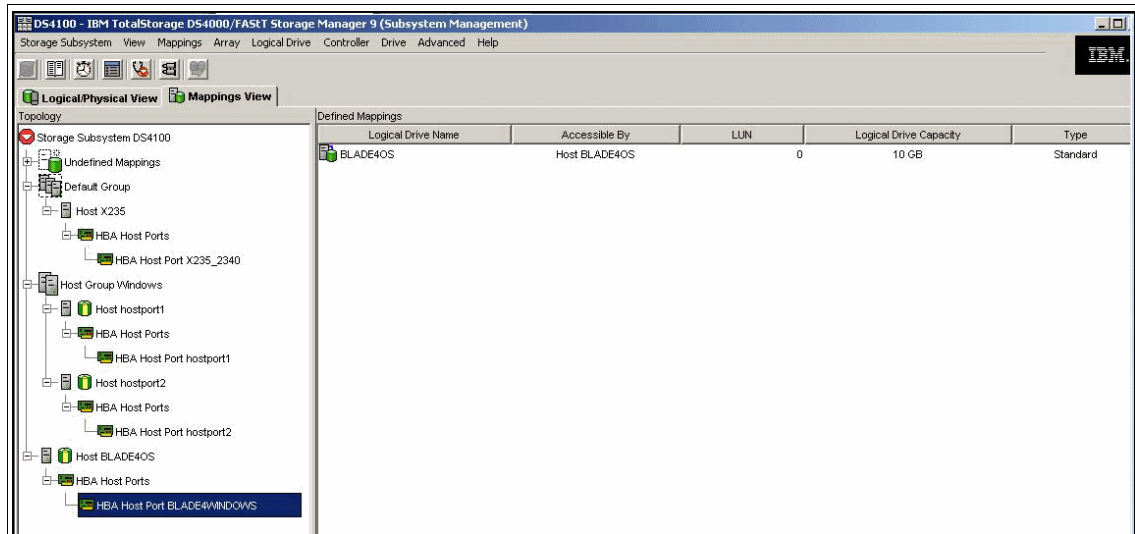

Figure 9-60 DS4100 - IBM TotalStorage DS4000/FASiT Storage Manager 9 (Subsystem Management)
29. Click **OK**. Next, you will see a window similar to Figure 9-60.